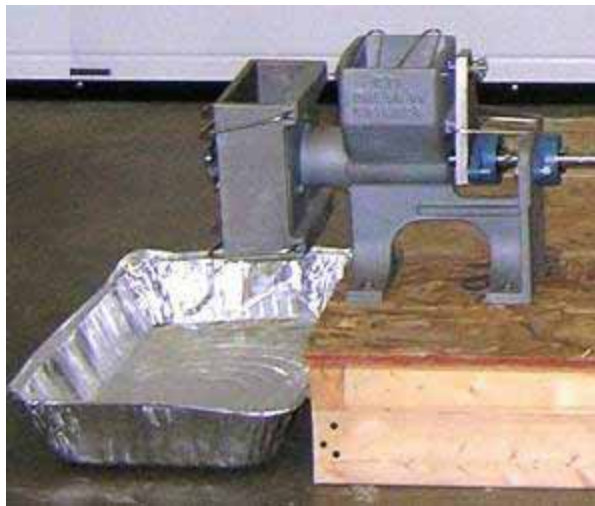

Figure 5: Omega VI on platform
3. mounting the Omega VI grinder (See Figure 5) and the Ewing III grinder (See Figure 6), and
1. Place the Omega VI grinder as close to the edge of the platform so that ground output (peanuts, millet, etc.) will fall into a collection pan placed next to the pedal powered device's platform (See Figure 5).